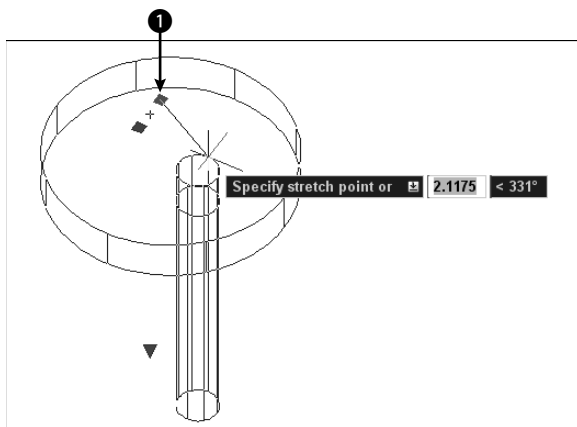

**Figure 24-25:** You can drag a hole to another location because composite objects retain a record of their history.
6. Click the grip at ❶ in Figure 24-25 and drag the hole to any new location. Then click.